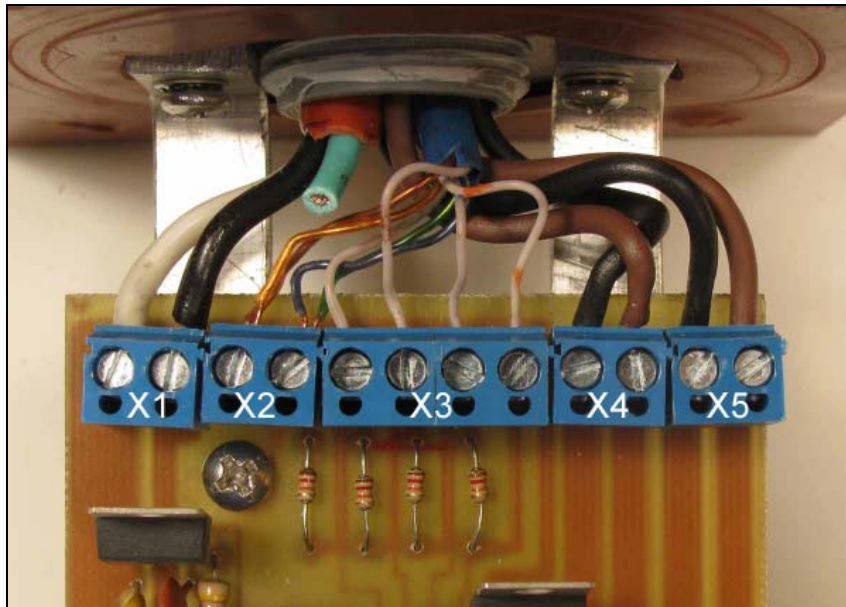

Figure 17: Connections to the PCB Terminal Blocks
- First, connect the 16/3 AWG extension cord to the +12V and GND lugs on the X1 terminal block. See Figure 17 for the correct location. The extension cord black wire in Figure 17 is used for the ground wire, as it is used in many low voltage circuits, but this is incorrect, irresponsible and dangerous when performing home electrical wiring. Also notice in Figure 17 that the green extension cord wire was cut short since it was not used.
- Now connect the thruster connections to terminal blocks X4 and X5 as shown in Figure 17.